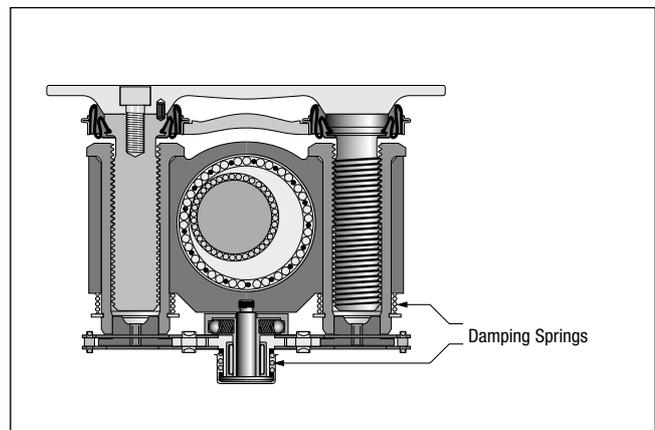

FIG. 11
- Compression springs ensure that the adjuster train has the necessary amount of predetermined friction, which prevents vibration in service from disturbing the clearance setting (Fig. 11).